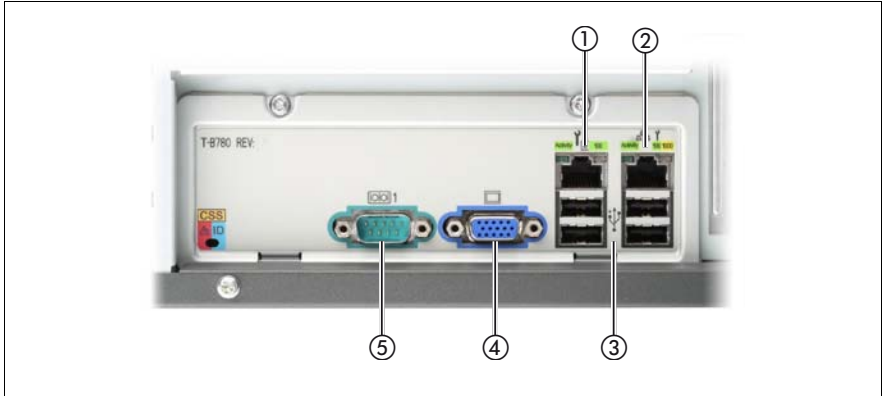

Figure 9: Connector panel on the rear side
- ▶ Connect the monitor to the video connector of the server (see figure 9 on page 55).